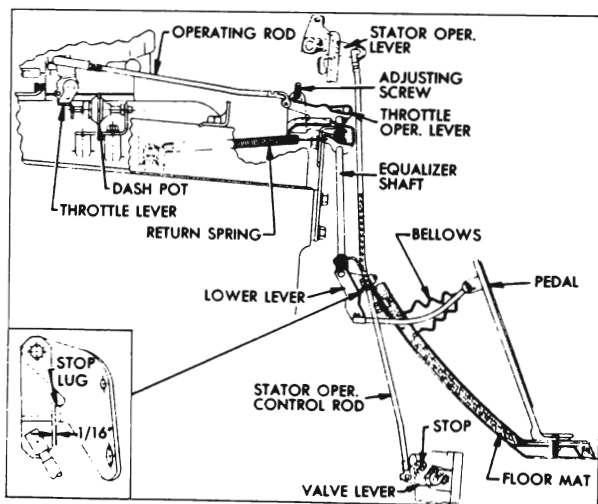

Figure 3-8—Throttle and Stator Control Linkage
6. Disconnect throttle return spring. Disconnect throttle operating rod from lever on equalizer shaft. See figure 3-8.
11. With throttle closed to hot idle position, check clearance between equalizer shaft lower lever and stop lug on the shaft-to-cowl mounting bracket. A minimum clearance of $\frac{1}{16}$ " must exist at this point. See figure 3-8.